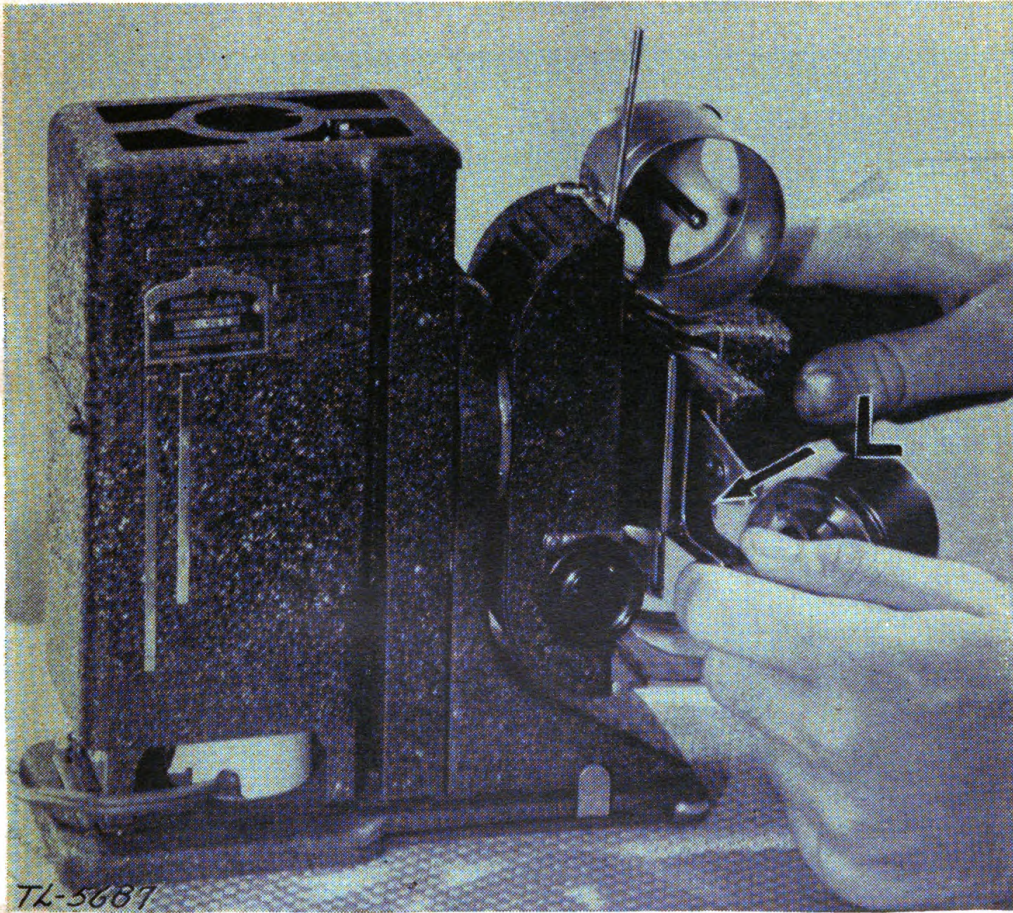

FIGURE 75.—Installing automatic slide changer.
c. Place semiautomatic slide changer *L* (fig. 75) in film gate by inserting small pin on slide changer in the receiving hole and closing gate.